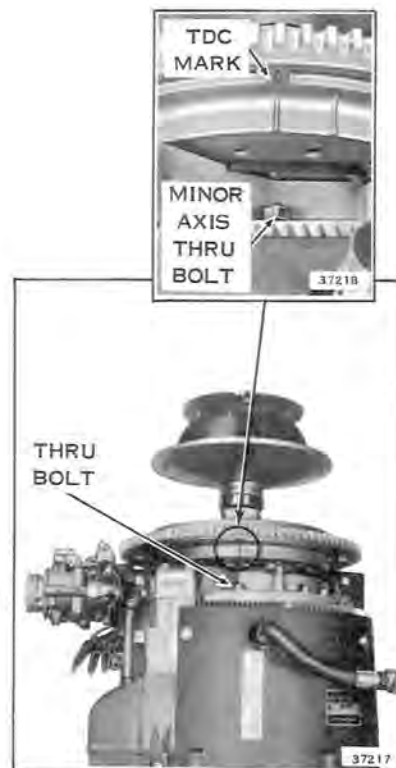

Figure 5-2
1. Screw 12 m.m. adapter (G) into spark plug hole with O-ring in place on adapter.
2. Turn flywheel so flywheel TDC mark is lined up with the thru bolt on the rotor housing minor axis as shown in Figure 5-2. Rotor is now at a minimum volume position.